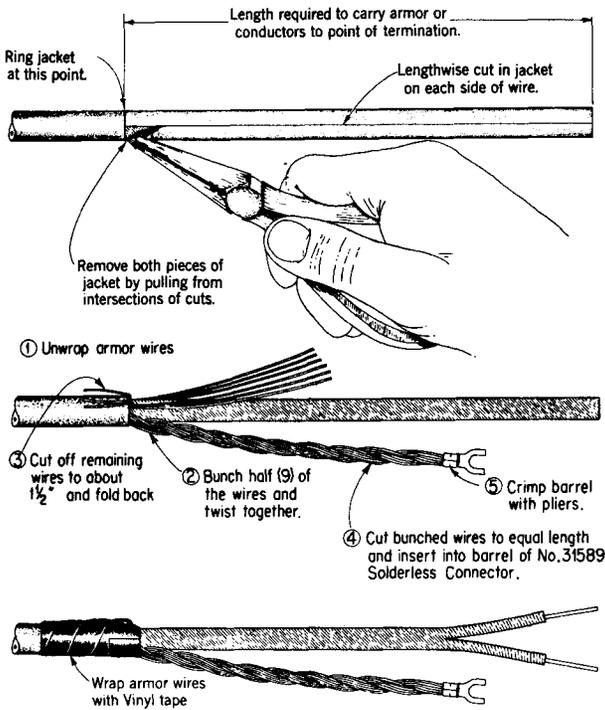

Fig. 14 — Preparation of Underground Wire for Protector Termination
4.08 Underground wire can be terminated in a protector by preparing the end as shown in Fig. 14. The solderless connector can be placed on the ground post in a manner similar to the “Lug-It” on service wire.